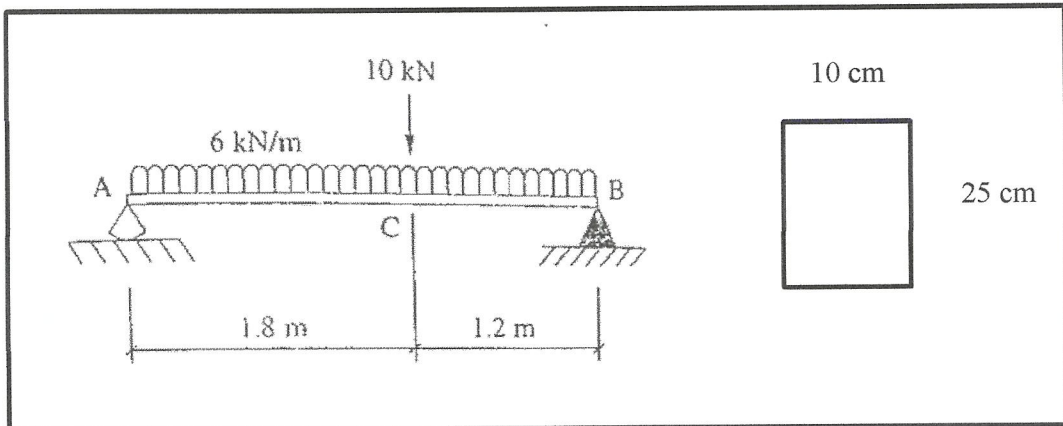

Figure Q4 (c)
- (b) List **FIVE (5)** assumptions in the theory of simple bending (5 Marks)
- (c) **Figure Q4 (c)** shows a beam and its cross section. Calculate and determine maximum bending stress ( $\sigma_{maks}$ ) that happen in the beam. (15 marks)